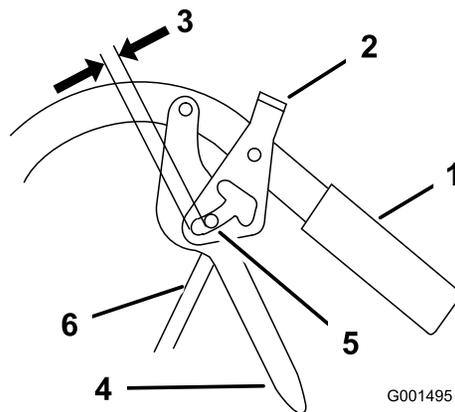

Figure 51
2. Adjust the control rod length by threading the rod in or out of the rod fitting until there is a 5 to 6 mm (3/16 to 1/4 inches) clearance between the control rod and the bottom of the neutral/parking brake lock (Figure 51).
3. Install the control rod to the drive lever and the neutral/parking brake lock. Secure the control rod with a clevis pin and a hairpin cotter (Figure 51).